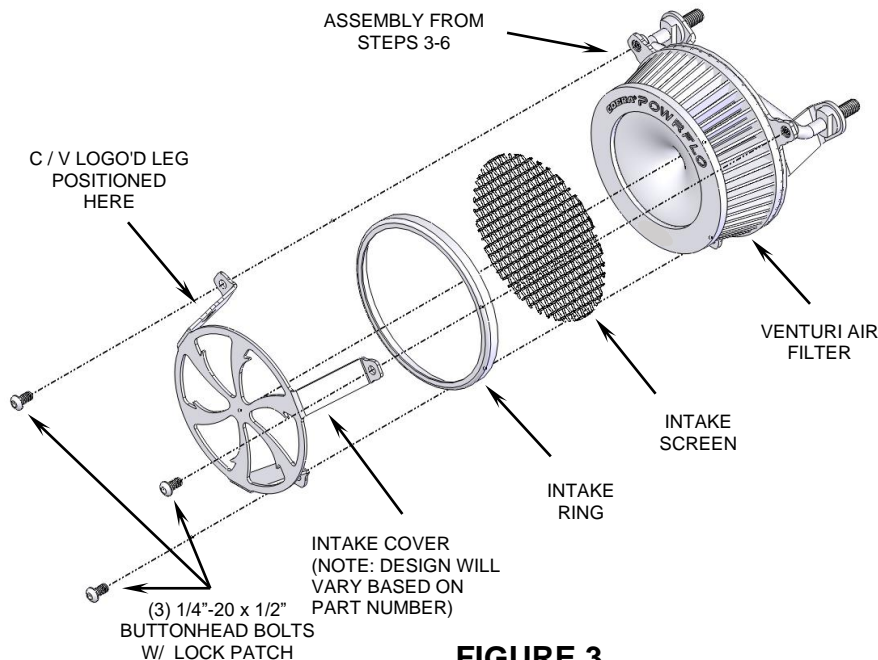

FIGURE 3
8. Place the supplied venturi filter onto the velocity stack. Insert the round intake screen into the chrome ring so the screen sits inside the edge of the ring. Place the ring and screen between the legs of the naked chrome intake cover as shown in Figure 3.
10. Insert the (3) supplied 1/4"-20 x 1/2" buttonhead bolts through the intake cover and into the base mounting plate, see Figure 3. Double check all parts are aligned properly and tighten securely.